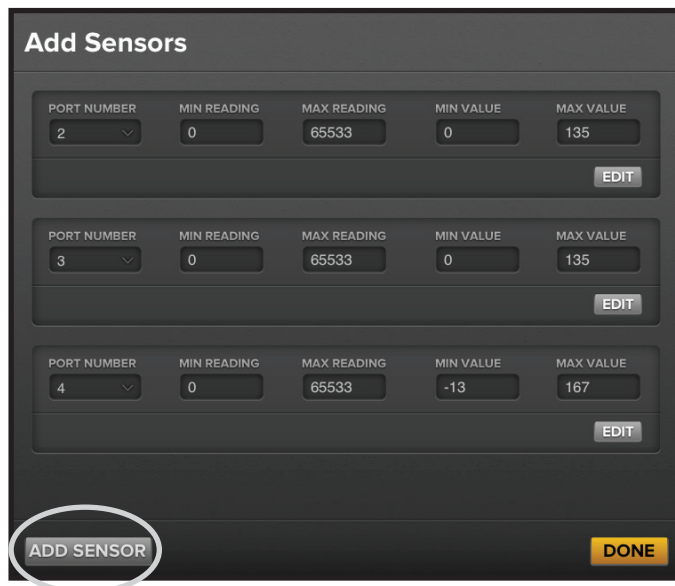

Figure 4—Add Sensors page
9. Fill in the Min Value and Max Value fields (Figure 4) according to the table below. Your sensor types should be recorded on page 28 of this manual. *Note: The values shown below will vary if you are using customer-supplied sensors instead of the sensors provided by Big Ass Solutions. Consult the literature provided with the customer-supplied sensors for the min and max values.*